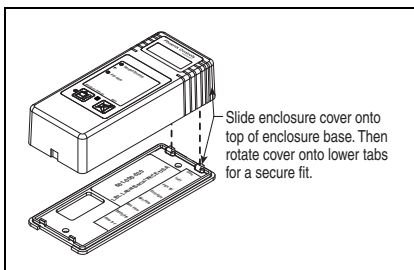

Figure 3. Reattaching the Fume Hood Monitor monitor housing to the base.
14. Reattach the monitor housing to the monitor base (see Figure 3):